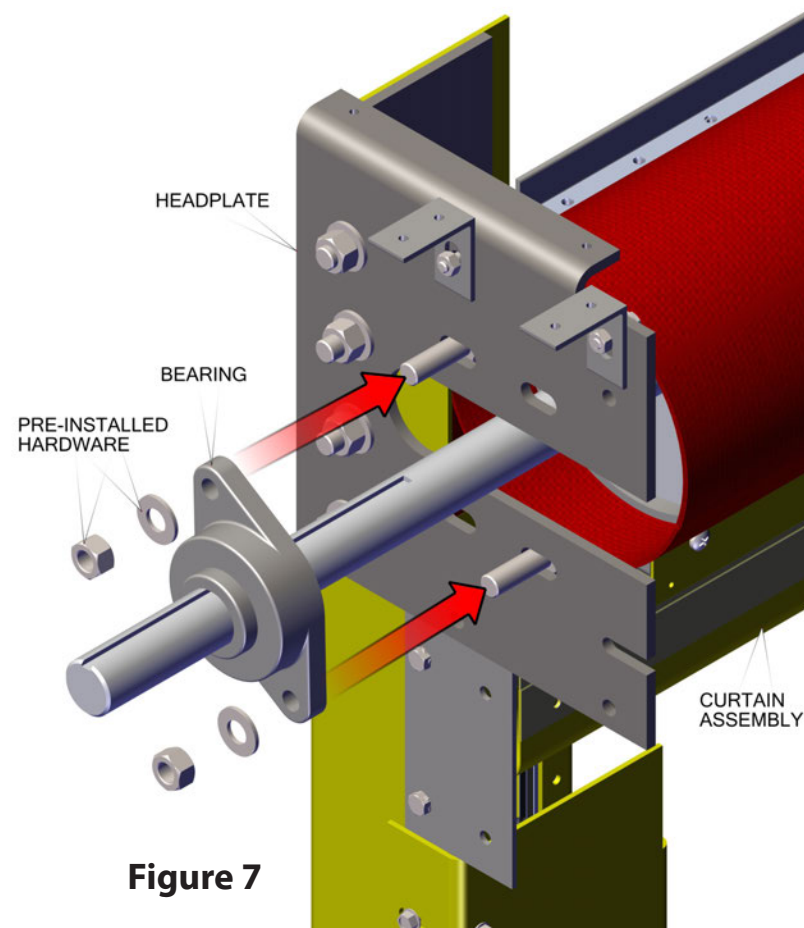

Figure 7
- Lift the curtain assembly using a fork lift or other appropriate lifting equipment and slide it into the slots in the headplates, as shown in Figure 7.
- Before removing the forklift or supporting equipment, reinstall the bearings by sliding them onto the shaft and attaching them to the headplates. See Figure 7